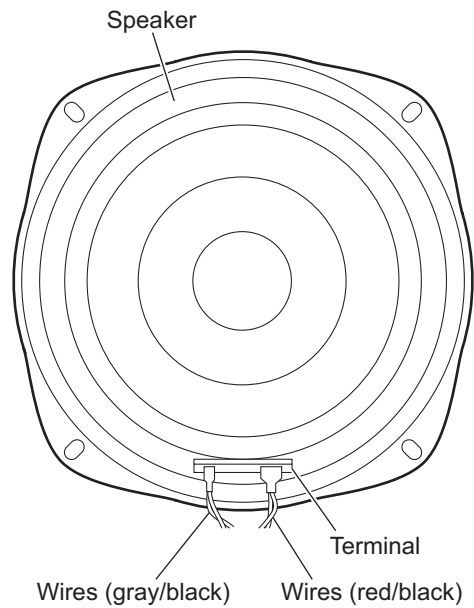

Fig.6
- Take out the speaker from the speaker main body and disconnect the wires (red/black, gray/black) from the terminal of the speaker. (See Fig.6.)